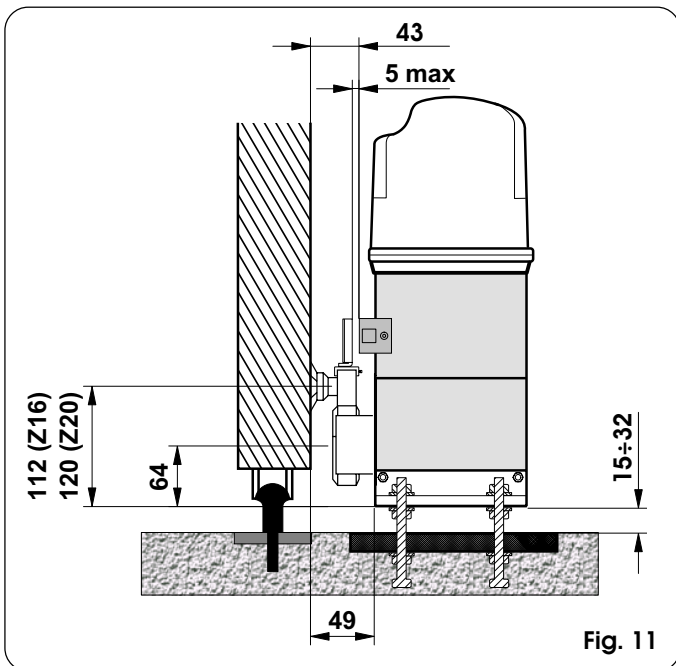

Fig. 11
- 4) Adjust the height of the feet and the distance from the gate, referring to Fig.11.